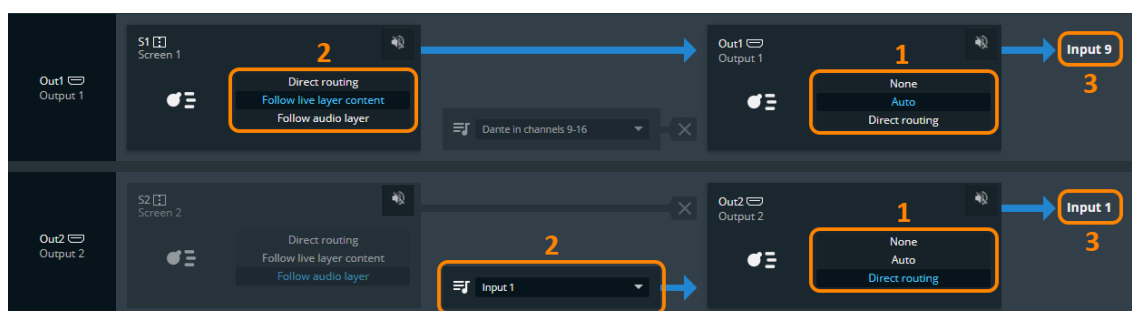

Fig. 29 - Audio concept
2. Set an output audio mode on **Direct routing** (step 1 on Fig. 29 - Audio concept page 107).
2. Set an output audio mode on **Auto** (step 1 on *Fig. 29 - Audio concept* page 107).
2. Set **Output 1** audio mode on **Auto** (step 1 on *Fig. 29 - Audio concept* page 107).